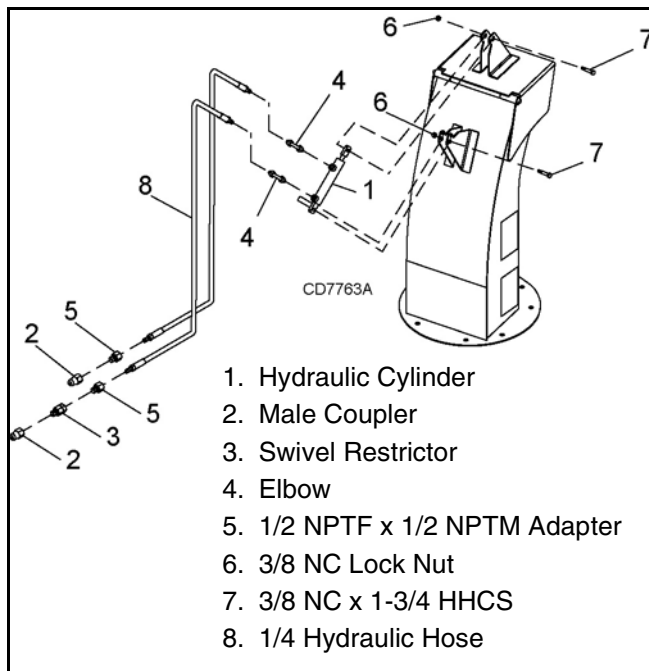

Figure 24. Hydraulic Chute Deflector Installation
MOUNTING HYDRAULIC CHUTE DEFLECTOR (FIGURE 24)
1. Remove rotator sprocket from lower hitch pin. Position rotator sprocket in square opening on chute adapter with hole facing towards hitch. Install shaft (7) into rotator sprocket (36) using roll pin (6). Make sure second hole on shaft is facing towards hitch.
2. Fasten rotary actuator (1) to mounting bracket (3) using hardware from actuator.
3. Fasten mounting bracket (3) and actuator (1) to upper three point channel using cap screws (12), link (8), and nuts (13). Leave hardware loose (See Figure 24).